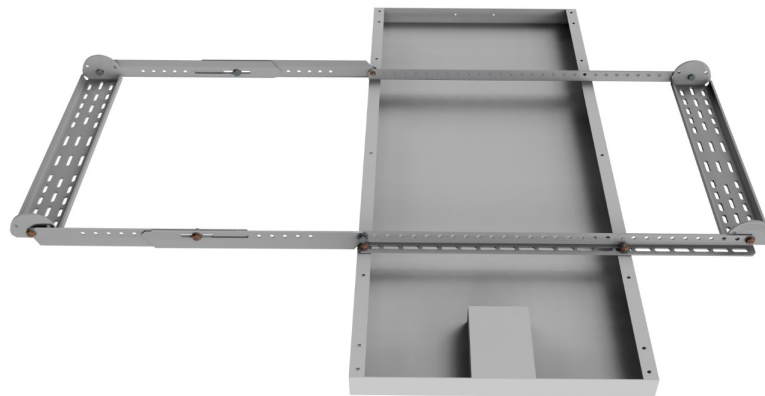

FIGURE 3-4. Attaching the lower mount bracket
5. Attach the bottom extended mount bracket to the extended mount struts as shown in FIGURE 3-4 (p. 7).